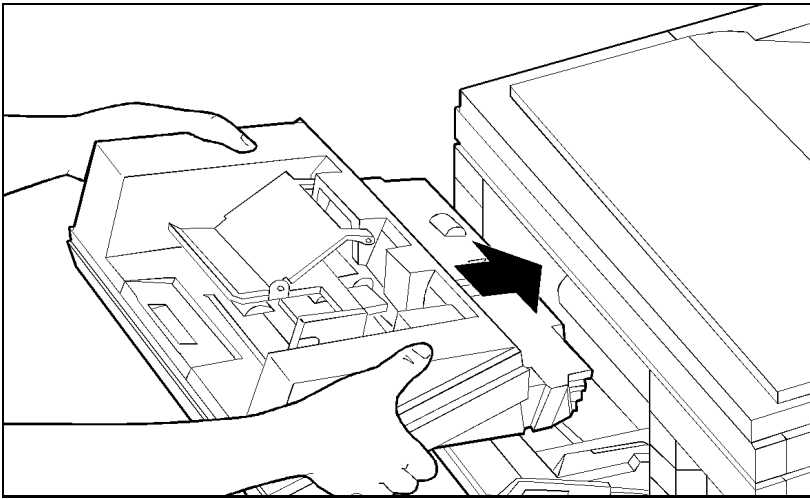

Figure 3-22 **Install the Envelope Feeder**
- 4 Insert the Envelope Feeder firmly into the printer (see Figure 3-22).